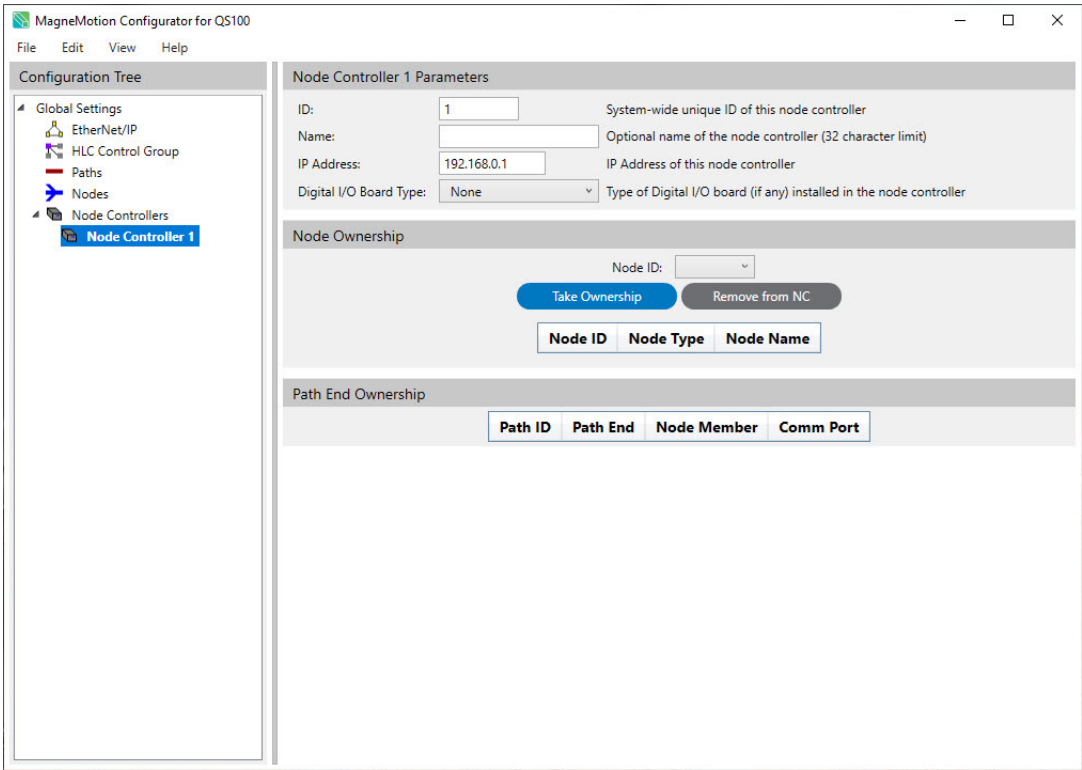

Figure 4-116: New (Undefined) Node Controller Page
*The **Node Controller Details** page for the selected node controller, see Figure 4-116, is displayed in the Configuration Settings Pane.*